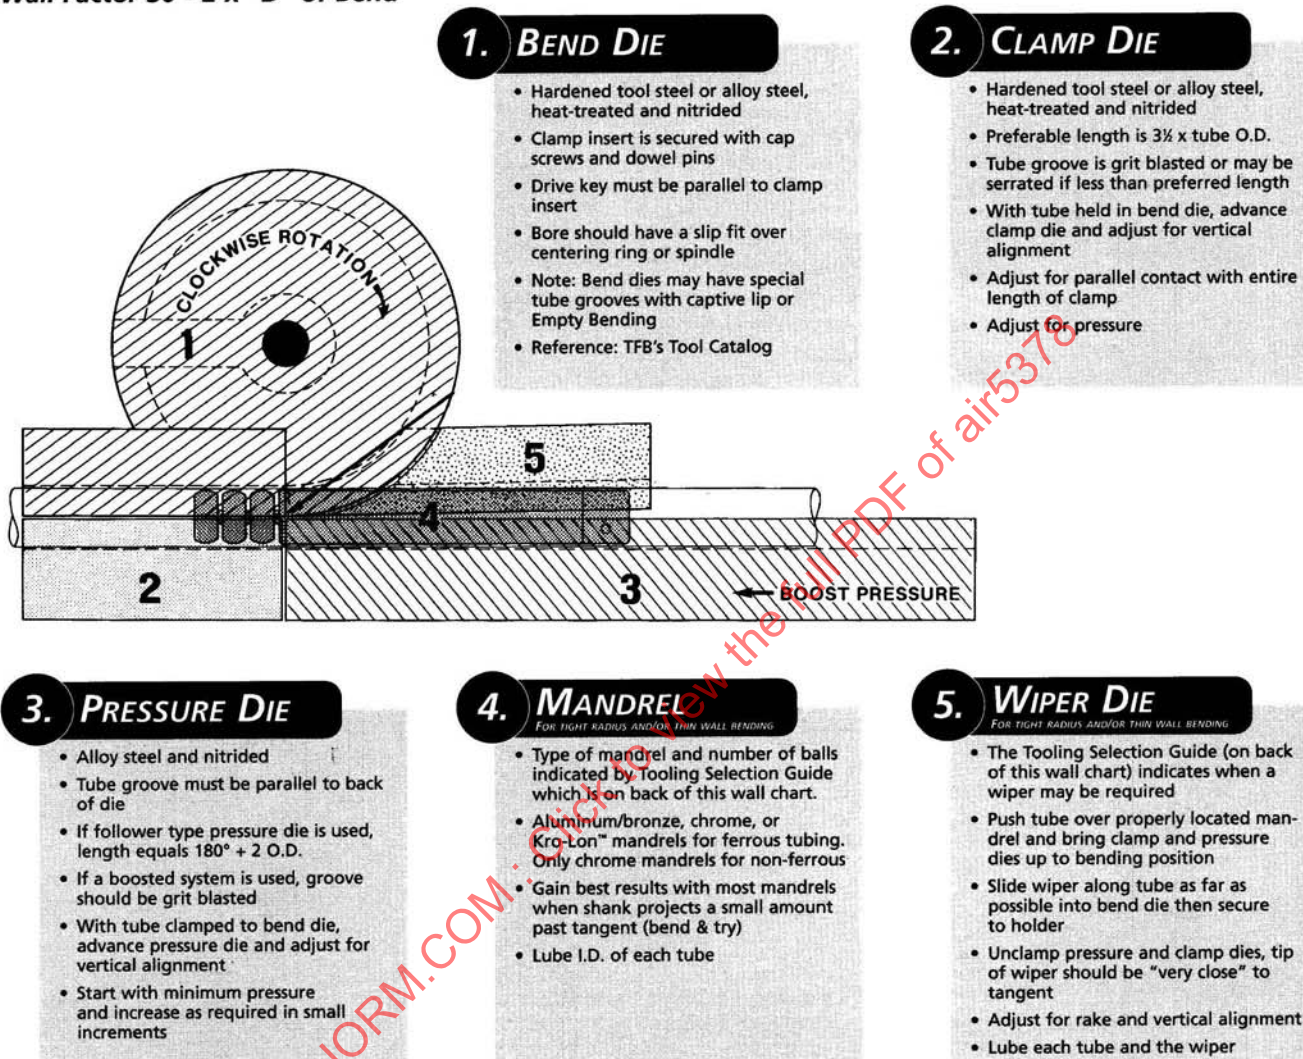

FIGURE 28 - Design and Set-Up of Tooling
- Tooling Set-Up (see Figure 28) - More attention is required to properly position the wiper die and mandrel. The bender is fitted with a pressure die advance to increase pressure applied through the tube against the wiper and bend die without the normal drag which can stretch the wall to rupture. To conserve material and expedite production the work piece will be bent 90° on each end, clamping twice in the center, when parted making two parts.
A pressure die advance should also be available. This counteracts the drag of the pressure die, mandrel, and wiper die, and pushes the tube into the bending area which prevents excessive wall thin-out (Figure 28).